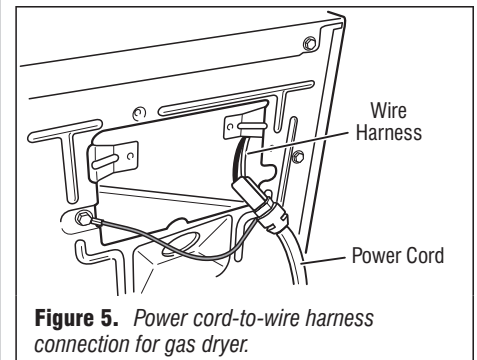
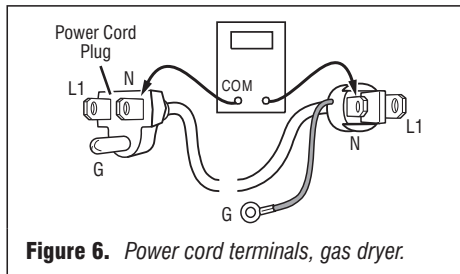

Figure 5. Power cord-to-wire harness connection for gas dryer.
Figure 6. Power cord terminals, gas dryer.
3. Check that the power cord is firmly connected to the dryer's wire harness. See figure 5.
5. With an ohmmeter, check for continuity between the neutral (N) terminal of the plug and P8-3 (white wire) on the machine control board. The left-hand side of figure 6 shows the position of the neutral terminal (N) on the power cord plug. Also see figure 17, page 10.
→ If there is no continuity, disconnect the white wire of the harness from the power cord at the location illustrated in figure 5. Test the continuity of the power cord neutral wire as illustrated in figure 6. If an open circuit is found, replace the power cord. Otherwise, go to step 6.
- If there is no continuity, check the continuity of the power cord in a similar way to that illustrated in figure 6, but for power cord's L1 wire.